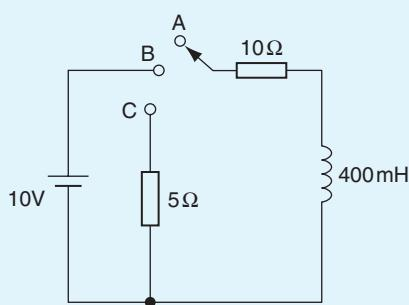

Figure 18.15
6. In the inductive circuit shown in Fig. 18.15, the switch is moved from position A to position B until maximum current is flowing. Calculate (a) the time taken for the voltage across the resistance to reach 8 V , (b) the time taken for maximum current to flow in the circuit, (c) the energy stored in the inductor when maximum current is flowing, and (d) the time for current to drop to 750 mA after switching to position C.